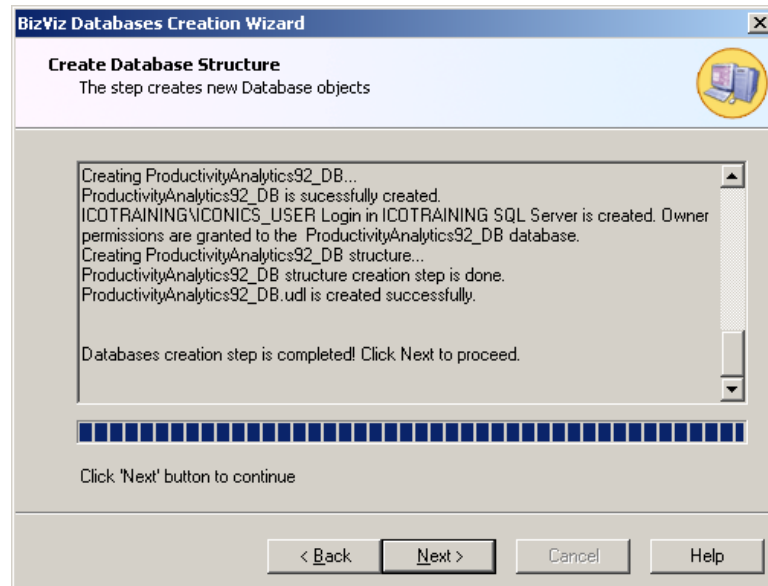

Figure L1.14 - Create Database Structure
15. The installation continues. When it completes the database creation, you will see the Create Database Structure screen, shown in Figure L1.14.